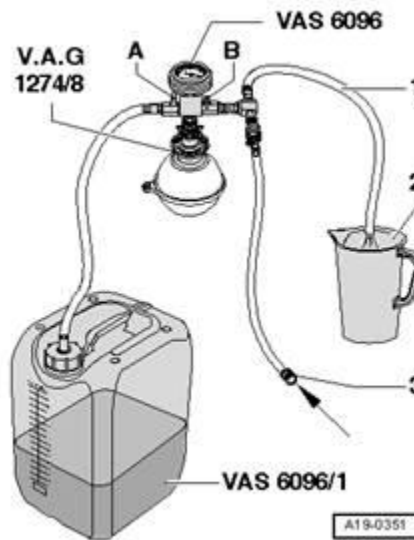

Figure 13. Cooling system filling.
18. Fill the cooling system with coolant at the proper mix ratio of coolant and distilled water according to the procedure in ElsaPro (Figure 13). Perform bleeding procedure.